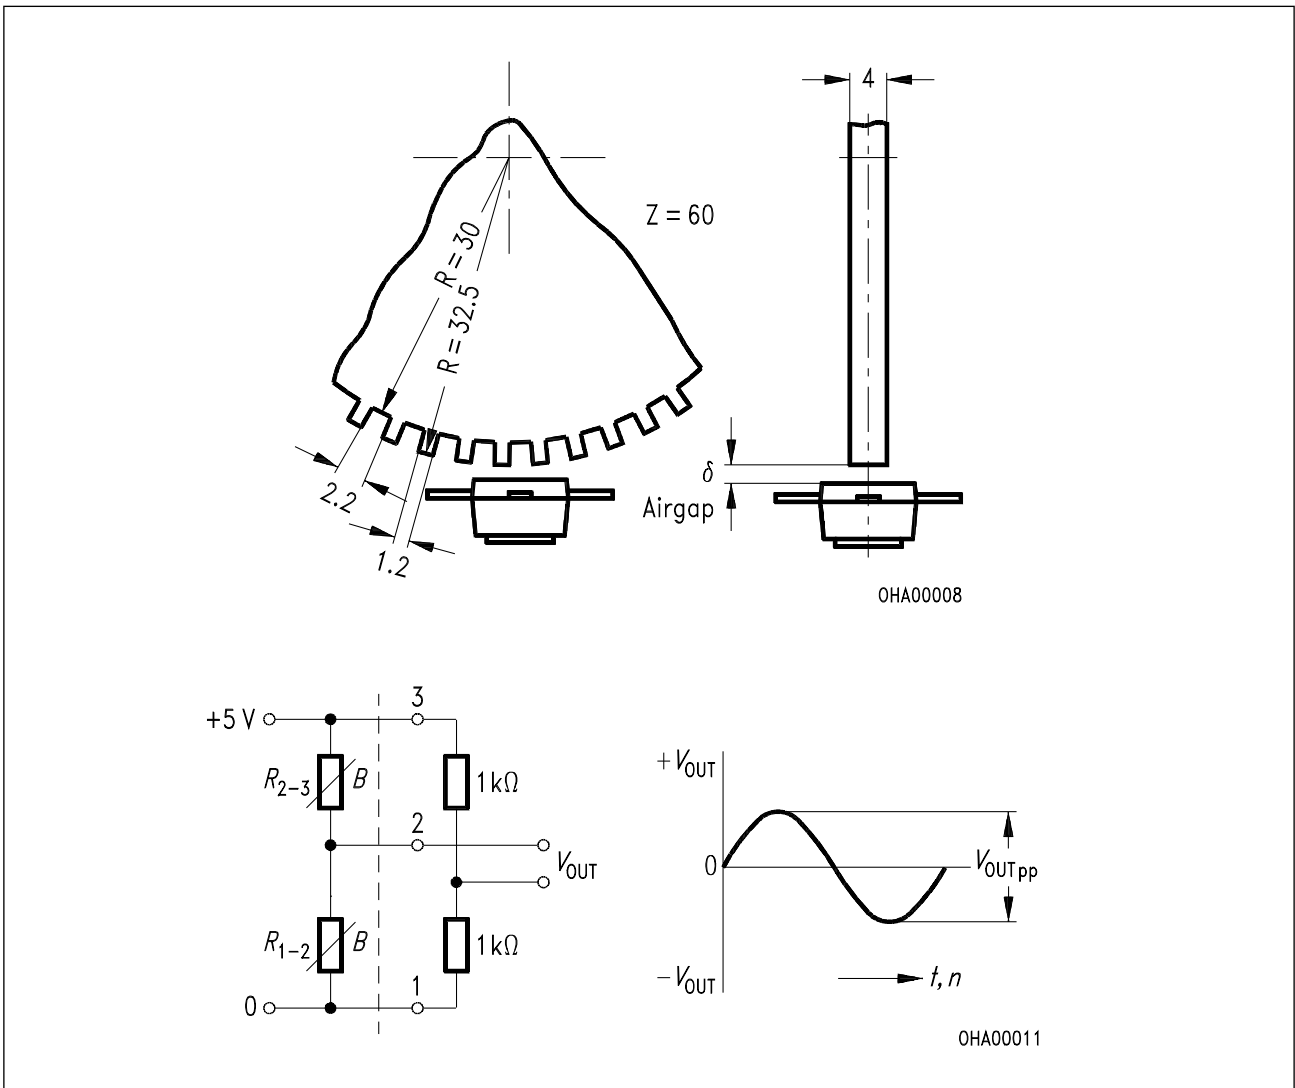

Fig. 1
5) Corresponding to measuring circuit in **Fig. 2** and arrangement as shown in **Fig. 1**
For digital revolution counting, the sensor should be actuated by a magnetically soft iron toothed wheel. The tooth spacing should correspond to about twice the magneto resistor intercenter spacing i.e $2 \times 1.6 \text{ mm}$ (see **Fig. 1**).